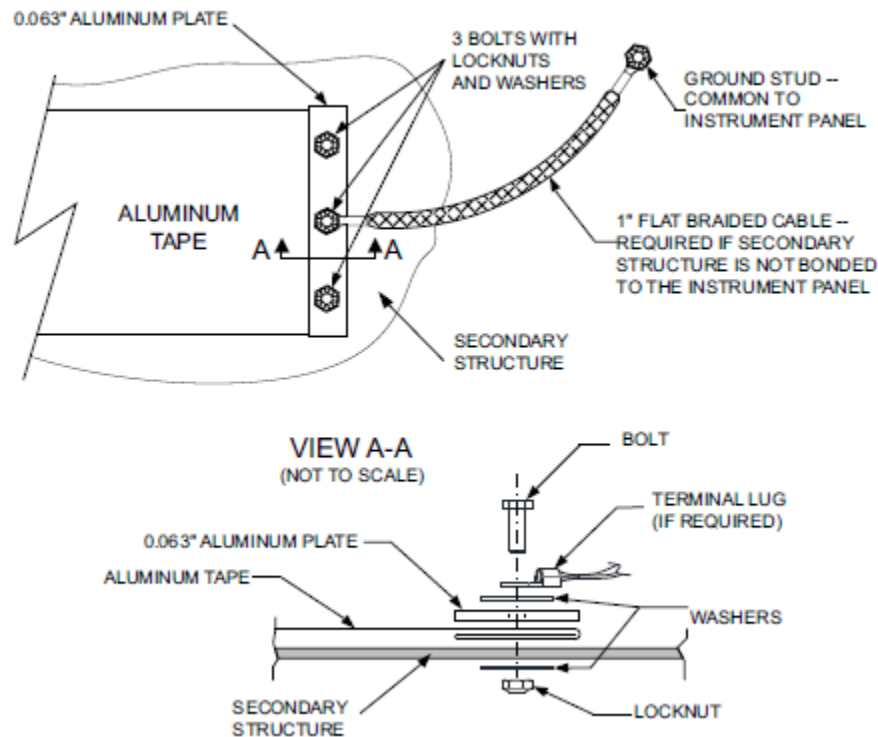

Figure 4-60 Aluminum Tape Ground Termination
8. Fold the end of the tape over twice for added thickness at the prepared grounding location. Refer to Figure 4-60. Apply 3" wide tape over the seam as shown.
11. If a bonding strap will be used to reach the grounding location, secure the end of the tape to the secondary composite surface as shown in Figure 4-60. Note that the procedure for installing mounting bolts applies only to secondary aircraft structures, not to primary structure or structural load-carrying members. The tape shall meet 5:1 length to width ratio if a bonding strap is used. The bonding strap shall be one inch wide and no longer than five inches. Refer to Figure 4-60.
14. Secure the end of the tape in place using a 0.063" piece of aluminum using three bolts and nuts. Refer to Figure 4-60.